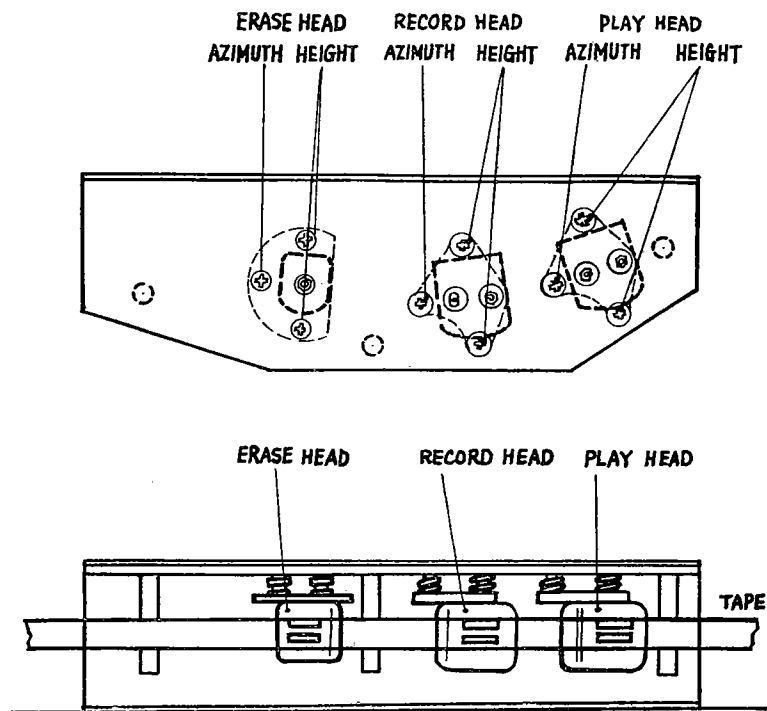

FIG. 8 HEAD ALIGNMENTS
HEAD HEIGHT ALIGNMENTS (Fig. 8)
5. Play 15 kc tone and turn azimuth adjustment screw (Fig. 8) of playback head until maximum meter reading is obtained.
2. While recording a 15 KHz signal on the tape, set LINE INPUT level control so meter reads 15 ~ 20 db below normal operating level (-15 ~ 20 VU on VU meter), and then adjust the record head azimuth screw (Fig. 8) for maximum output.